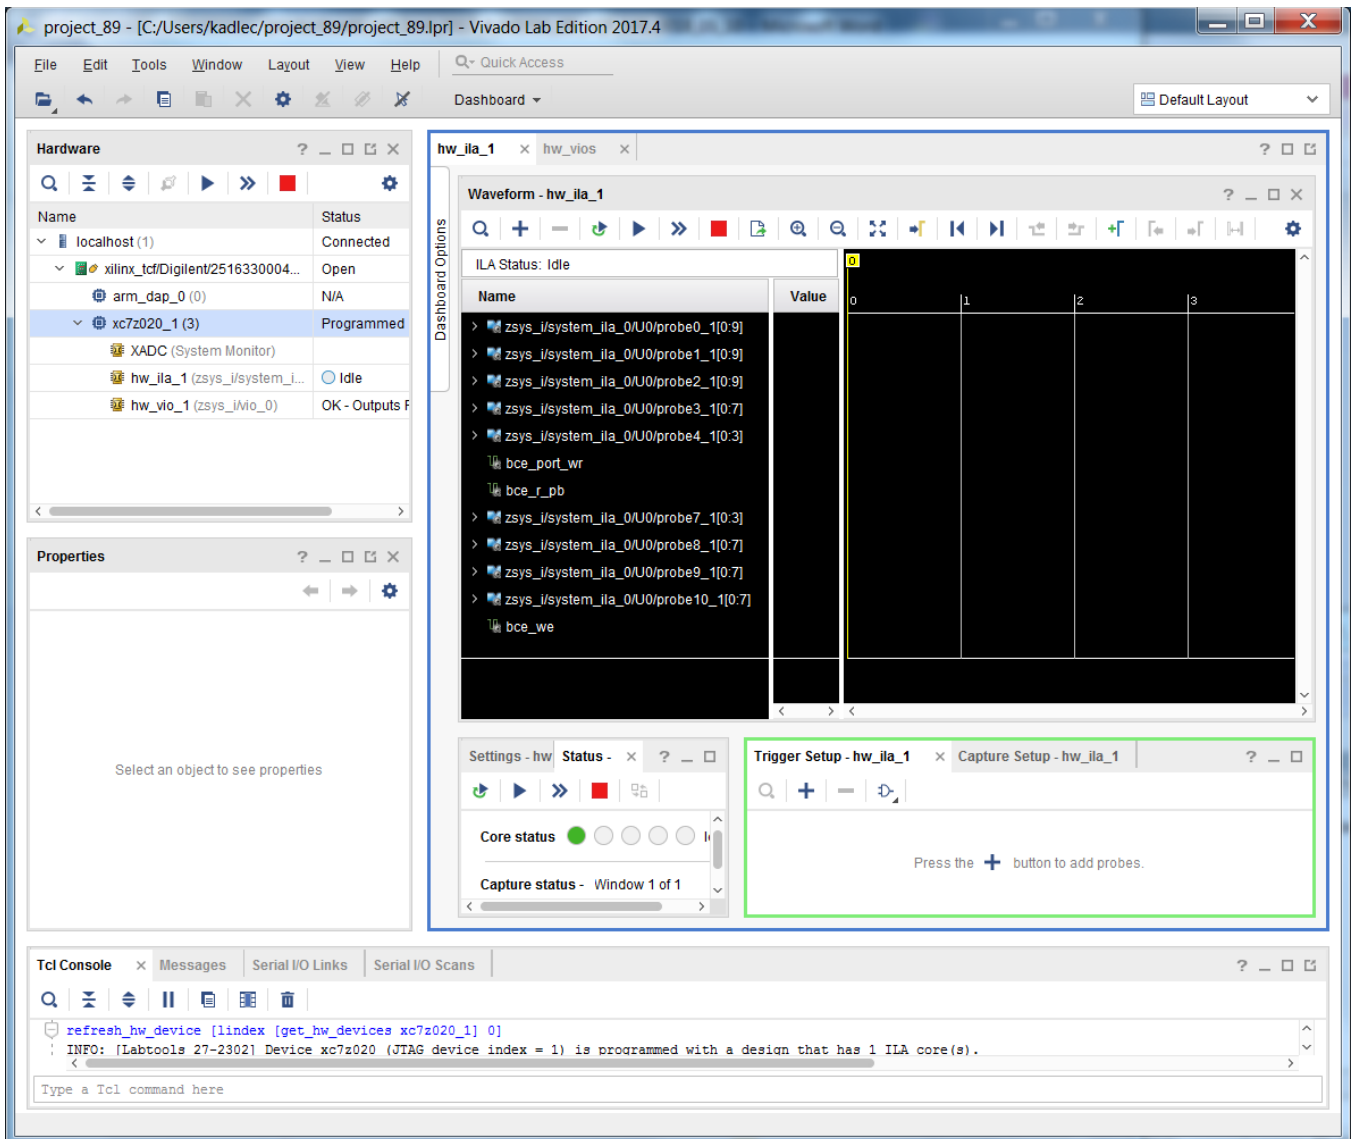
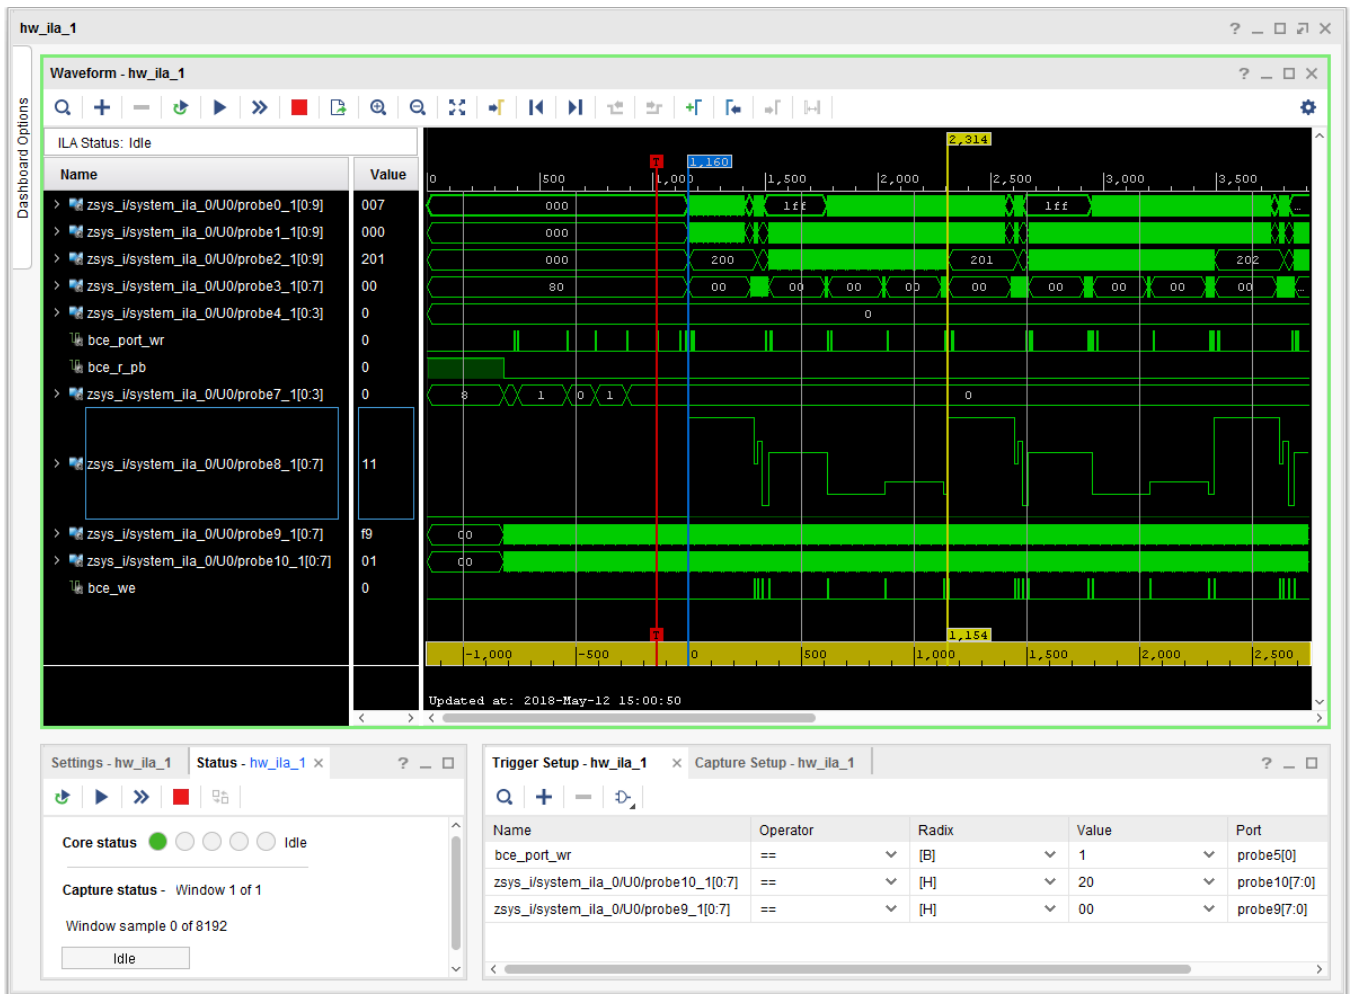
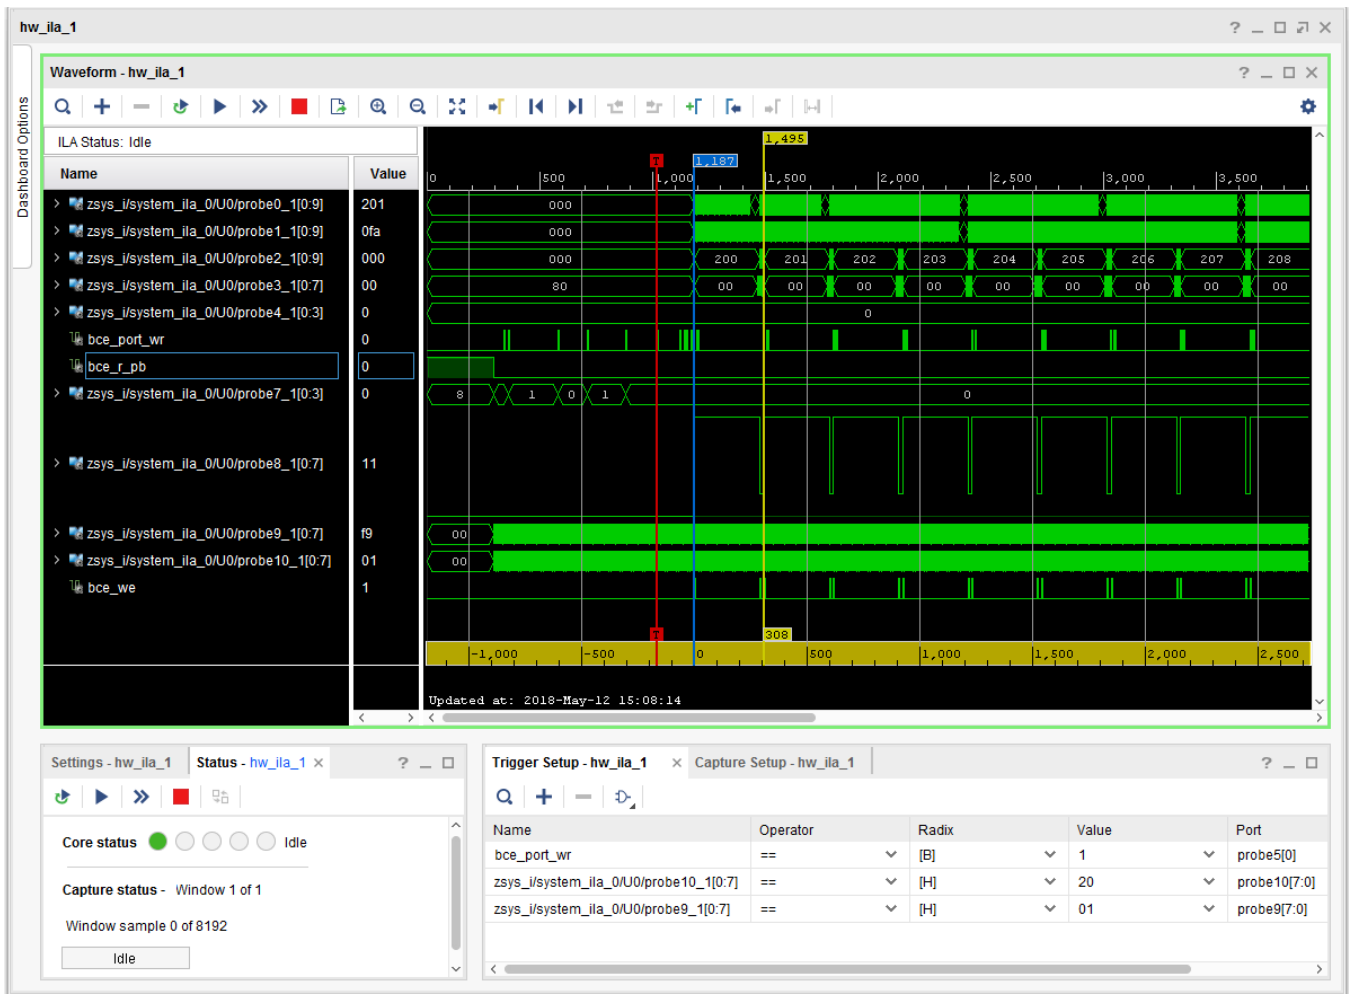

Figure 10: Release demo t01\_s. Probes file is specified. Trigger conditions are set.
Figure 11: Release demo t01\_s. Details of the 8xSIMD EdkDSP LMS filter computation.
Figure 12: Release demo t01\_s. Details of the 8xSIMD EdkDSP FIR filter computation.
See *Figure 10, Figure 11, Figure 12*.
The Vivado Lab tool is connected to the chip. You have to specify the probes file (See Figure 10).
Names and parameters of probes are added to the ILA Waveform window. See Figure 10.
Data are captured and sent via jtag USB connection in Vivado Lab Edition 2017.4.1 for visualisation and analysis in the waveform window. This snapshot stores the detailed trace of the FIR filter computation. See Figure 12.
In Vivado Lab. Tool, in the ILA configuration page, change the trigger condition to  $(\text{probe9}[0:7]==0x01)$ . This corresponds to the condition  $\text{bce\_port}[0:7]==0x01$ . See connections in Figure 3. ILA will capture start of the FIR filter. See Figure 12. The PicoBlaze C code of the FIR example is listed in Figure 19.
The Vivado Lab. screens presented in Figure 11 and Figure 12 display also the 1024 samples before the trigger event. This mode is set in the trigger mode settings window. Screens display how the PicoBlaze6 controller reset signal **bce\_r\_pb** is deactivated. PicoBlaze6 reads the 8 bit parameters **op** and **n** from the MicroBlaze before the trigger event. See complete program listing in Figure 19 with these initial lines of the PicoBlaze6 SW:
- Open description of debug nets present in file, thus specifying the probes file. See *Figure 10*.
See *Figure 11*, *Figure 12*.